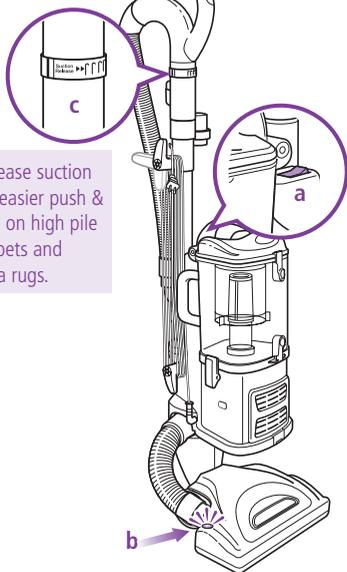

Fig. 11
- 3 Press the On/Off switch (a) to the "I" position to vacuum bare floors (straight suction only) or to the "II" position to engage the motorized floor brush (for vacuuming carpets and rugs). (Fig. 11)
⚠ IMPORTANT: The motorized brush indicator light (b) will illuminate green when motorized floor brush is on, or red if there is a blockage or jam. (Fig. 11) This feature is designed to protect your Lifetime Belt that powers your motorized floor brush. See Checking for Blockages on page 15.
- 5 **Due to the huge suction power of this vacuum, it may become necessary at times to adjust the suction release on the handle. (Fig. 11) If the vacuum seems difficult to push or pull or if it is lifting up area rugs, adjust the suction release by rotating the collar 90° counterclockwise to open the valve. Rotate the collar clockwise to close the valve when you need high suction and for vacuuming floors.**